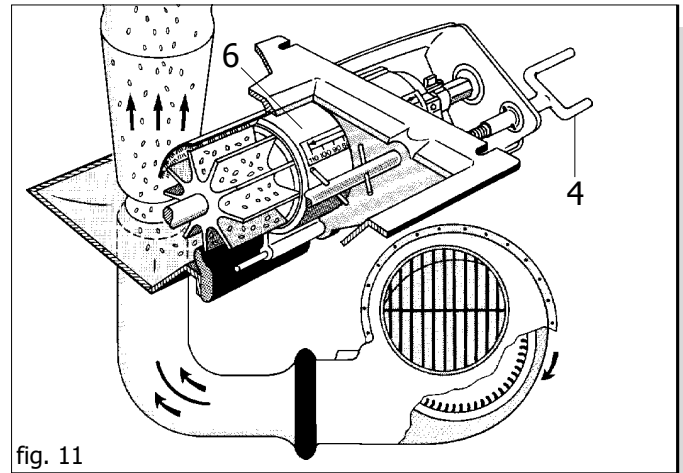

fig. 11
The distributed seed quantity per hectare is adjusted by the seed distributor (Fig. 11) by moving the graduated slide valve accordingly (6) with the screw staff (4). The positions of the distributor scale correspond to the adjusting table values in the left column (table page 60-61).